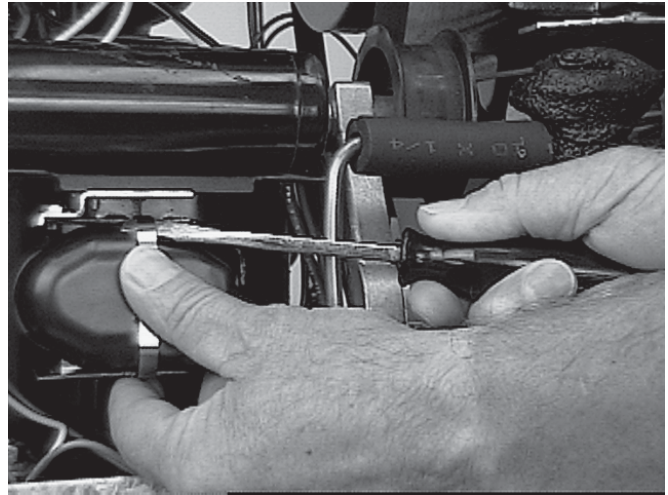

Figure 13. Compressor Terminal Cover Removal
2. Remove the compressor terminal cover by inserting a standard screw driver under the terminal cover retaining clip and gently pry off. (Fig. 13)